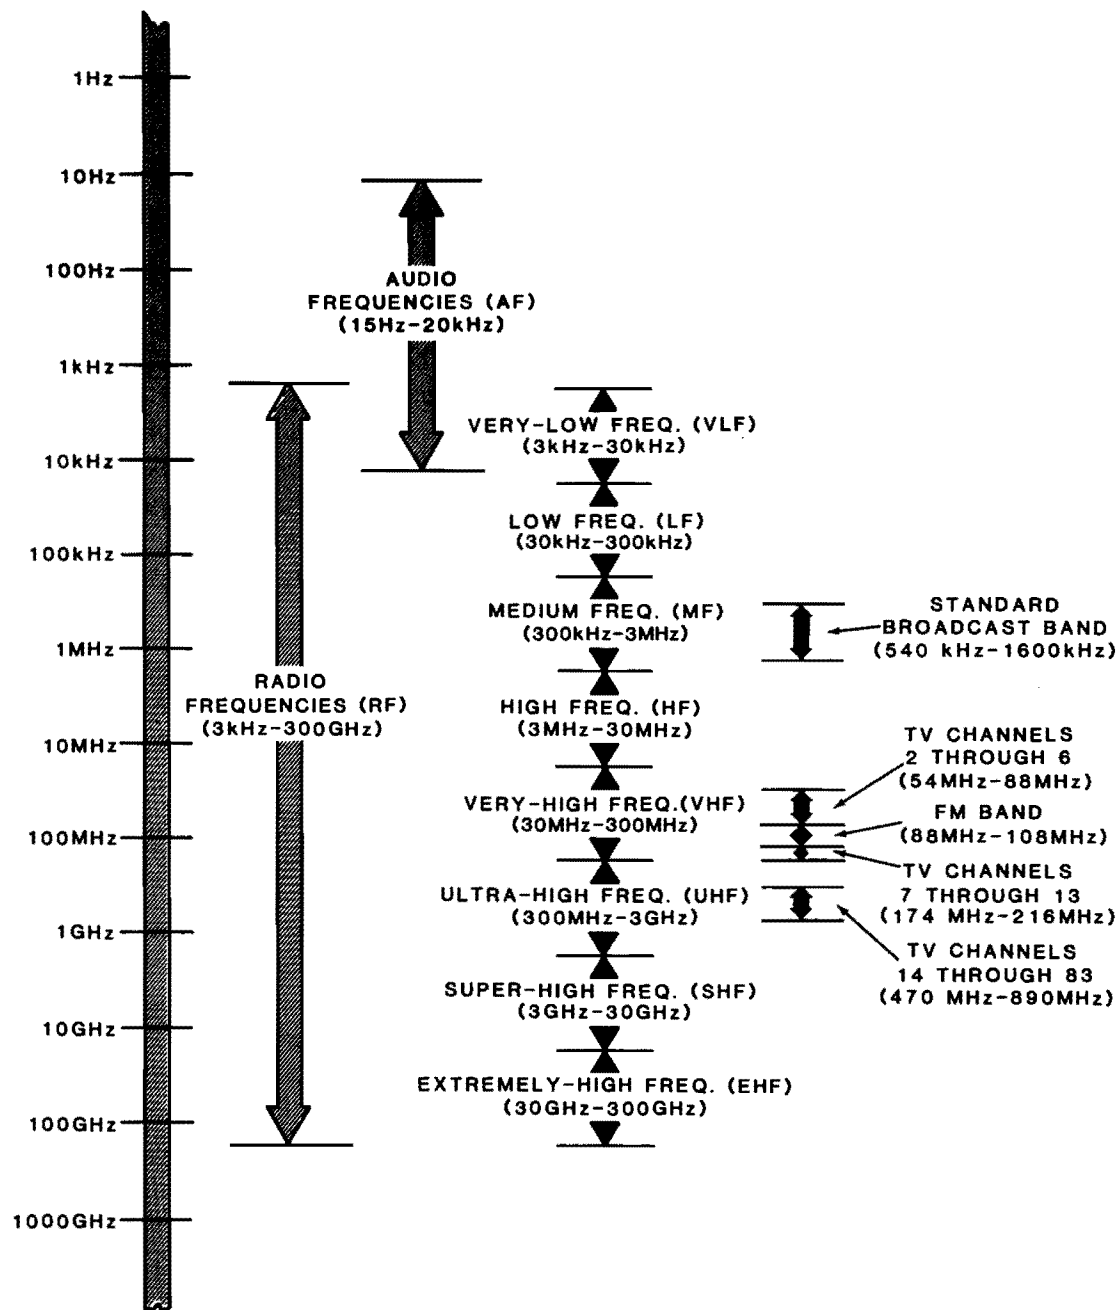

Figure 1-17 Frequency bands used in electronic applications.
The frequencies that are most commonly used in electronic applications are shown in Figure 1-17. As shown in this Figure, the frequencies between 15 hertz and 300 GHz (300,000,000,000 hertz) are the ones that are most widely used. The frequencies between 15 hertz and 20 kHz (20,000 hertz) are referred to as audio frequencies (AF) as shown. The AC current that has a frequency in this range will produce an audible tone. An audible tone is a tone to which the human ear will respond. In many cases, the AC current must be applied to a device, such as a speaker, which will convert the AC waveform into sound waves that can be detected by the human ear.
The frequencies within the eight RF bands are further divided into smaller bands which are allocated for specific applications. As shown in Figure 1-17, a small band of frequencies within the medium frequency (MF) band is identified as the standard broadcast band. This band of frequencies is used by commercial AM radio stations. Also note, that the television channels (2 through 6 and 7 through 13) and the FM band (used by FM radio stations) are within the very-high frequency (VHF) band. The higher television channels (14 through 83) are transmitted at higher frequencies which fall within the ultra-high frequency (UHF) band. In the United States, these frequency assignments (as well as others which have not been discussed) are controlled by an agency of the U.S. Government known as the **Federal Communications Commission (FCC)**.